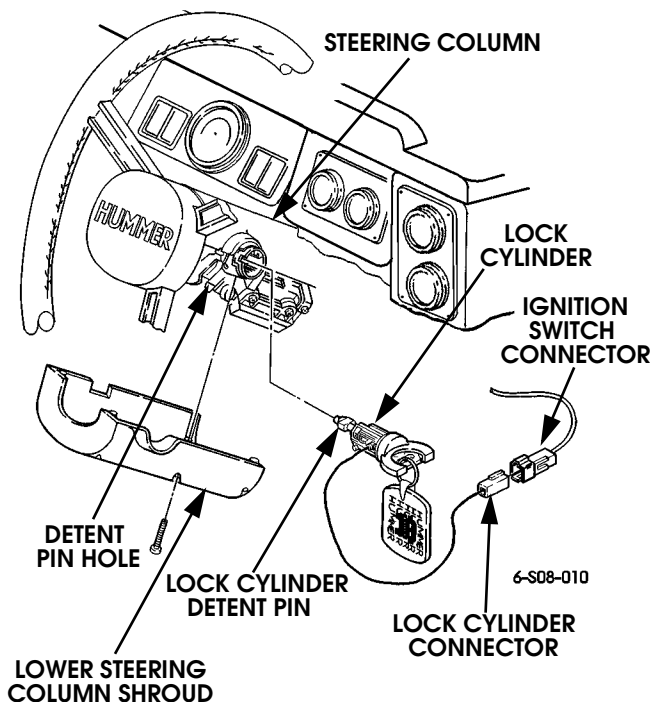

Figure 8-14: Ignition Switch Lock Cylinder Replacement
3. Remove five screws and lower steering column shroud (Figure 8-14).
1. Insert lock cylinder into steering column (Figure 8-14).